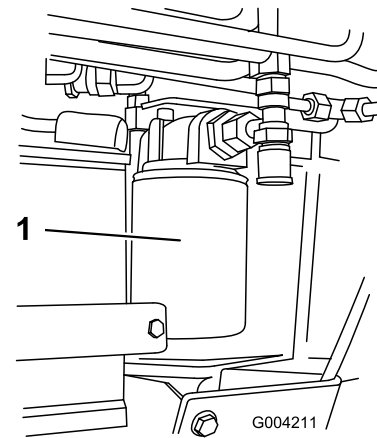

Figure 54
4. Place a drain pan under the filter (Figure 54).
5. Remove the old filter (Figure 54) and wipe the surface of the filter adapter gasket clean.
7. Install the replacement hydraulic filter onto the filter adapter (Figure 54). Tighten it clockwise until the rubber gasket contacts the filter adapter, then tighten the filter an additional 3/4 turn.